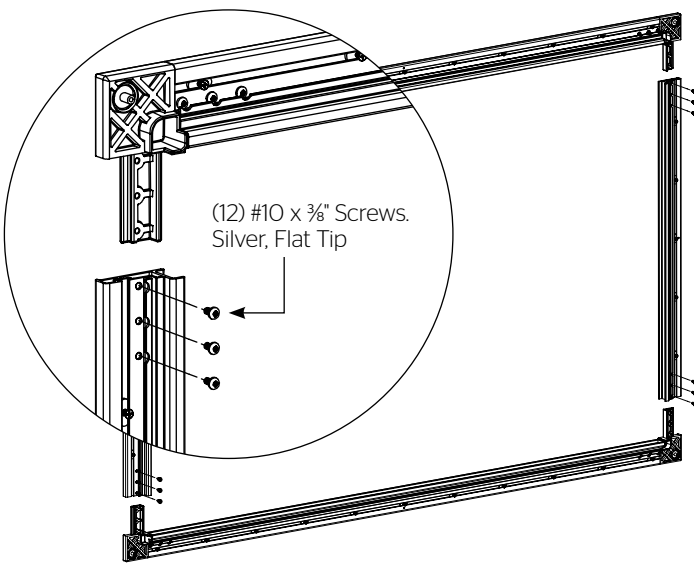

Figure 1
3. Slide inner frame pieces together at corners. Secure inner frame pieces with (12) #10 x  $\frac{3}{8}$ " silver screws (Figure 1).